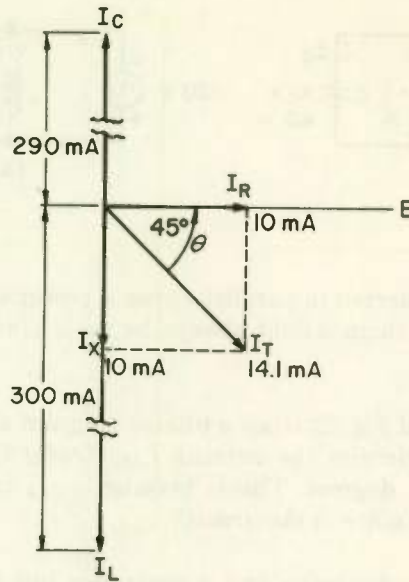

Fig. 23
5. 14.1 mA . . . See Fig. 23 for phasor diagram.